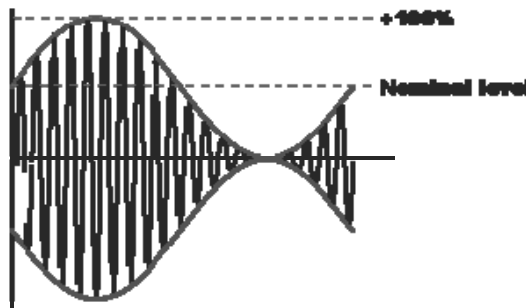

Fig. 4.2: $m = 100$
1. Vary V_m , such that we get waveform on CRO as Fig 4.2 and note its corresponding V_{\max} and V_{\min} .